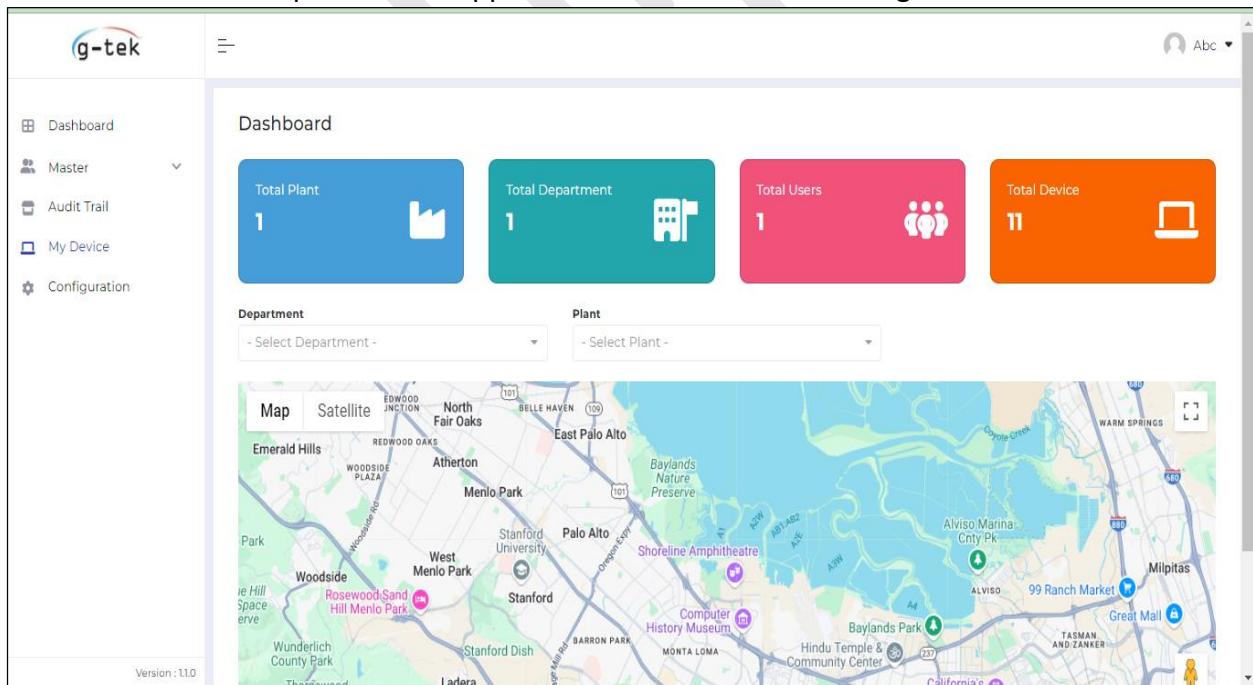

Figure 46 GtekCloud Application Dashboard
- First add the Plant, Department details, then add users with permission options available in the left side panel of the application window as shown in figure 46.